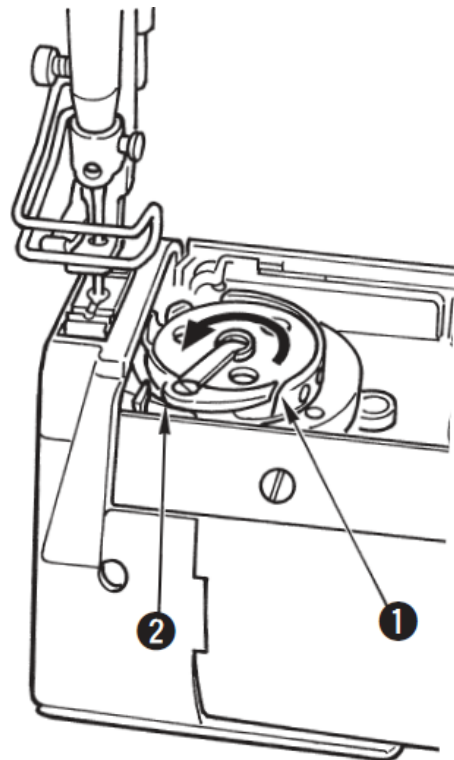

Figure 15
1. Pass the thread into the threading slit (Fig 15, Item 1) in the inner hook, pass under protruding section (Item 2) and route it to the tension spring.